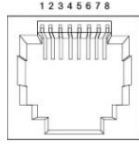

Figure 4
1. Insert the top of the DIN-Rail on to the track as shown in *Figure 4*.